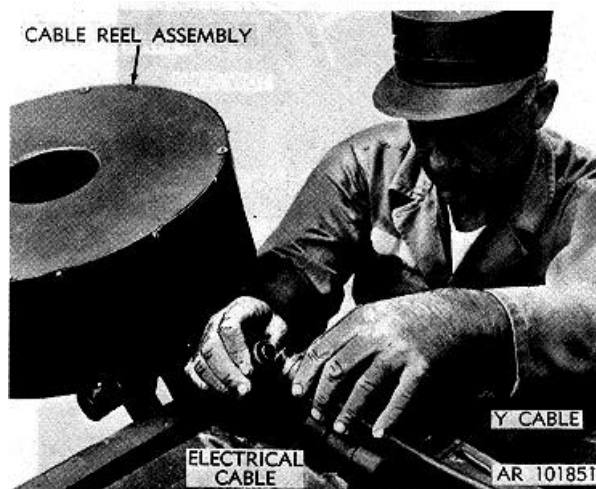

Figure 2-20. Connecting cable of cable reel assembly to matched color-coded receptacle of Y cable.
g. Connect cable on underside of cable reel assembly to matched color-coded receptacle of Y cable (fig. 2-20).